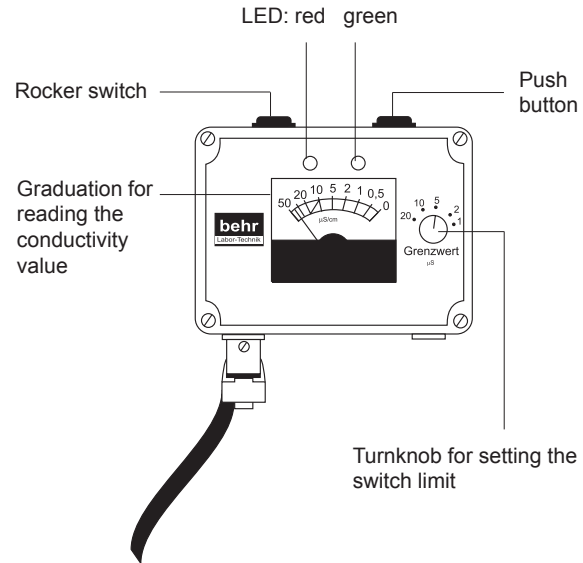

Fig. 7: Conductivity meter with limit switch
6. Use the turnknob to set the limit as desired (Fig. 7).
7. Switch the device on by switching the rocker switch on the upside of the conductivity meter (Fig. 7) into "I" position (not for built-in versions).
The LED indicators (Fig. 7) show the operating status of the water demineralisation unit:
With devices with limit switch, press the black pushbutton (Fig. 7) on the upside of the conductivity meter or, with built-in versions, the green button on the front side. As long as you keep this button pressed, the automatic switch-off is shunted out so water can pass through.